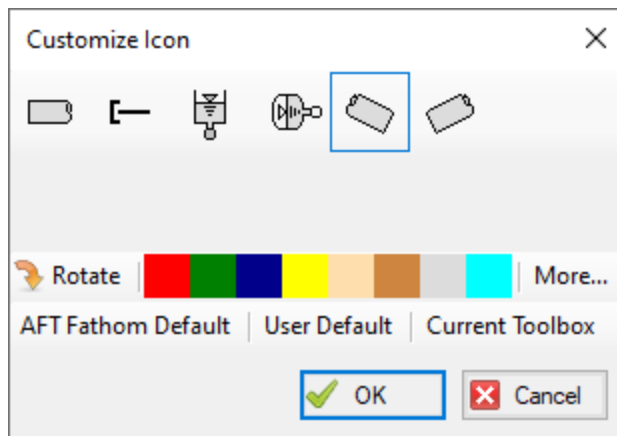

Figure 6: Use the *Rotate* button to obtain the preferred icon and rotation
9. Right click on J12 and select *Customize Icon*. Notice that you may need to use the *Rotate* button to get the preferred icon and rotation, as shown in Figure 6.